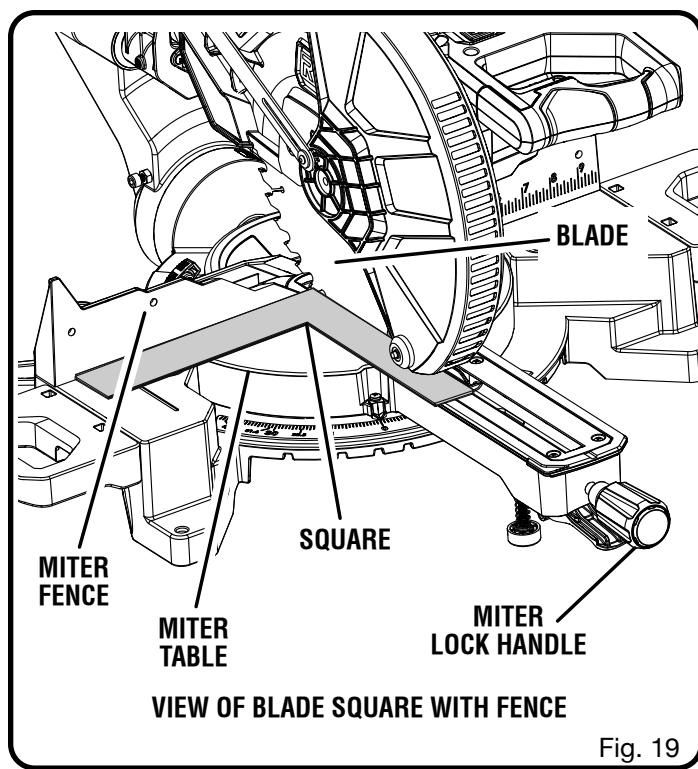

Fig. 19
See Figures 19 - 24.
- The edge of the square and the saw blade should be parallel as shown in figure 19.